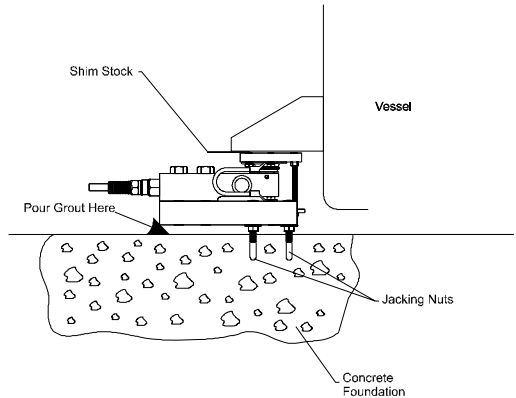

FIG. 12: ADJUSTING FOR LEVEL WITH SHIM STOCK
- Step 7. To adjust the level of the top plate use shim stock between the top plate and the support bracket. (See Fig. 12)